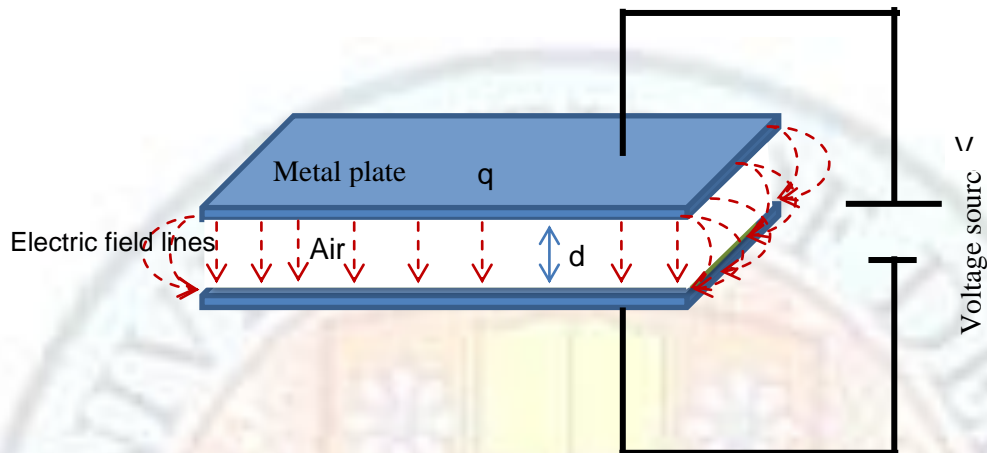

Fig. 4
**Parallel plate:** Now suppose we have two parallel plates with area,  $A$ , of each plate arranged parallel to each other facing their planes and separated by a distance  $d$ , as shown in Fig. 4. If  $q$  and  $-q$  are the charges on the plates.